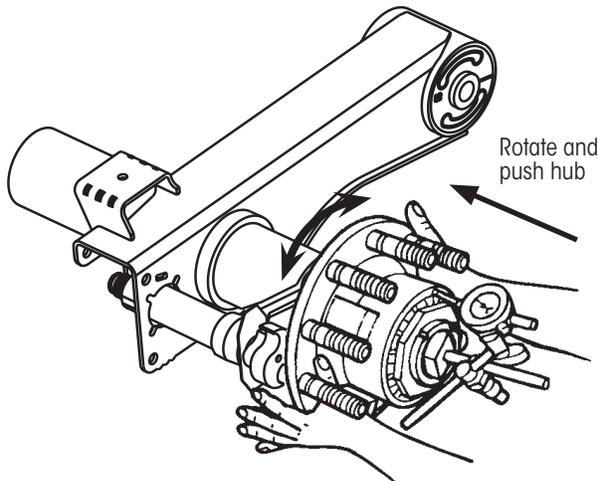

Figure 5: Checking inward end-play
NOTE: A reasonable assessment can be performed without removing tires and rims. However, this procedure is best performed with hub only as shown in Figure 5.
8. **Grasp hub flange** as shown in Figure 5, and **push** the hub inward **while rotating** the hub slightly in both directions (15 - 30° between two holes) until the dial indicator reading remains constant. **Record** reading.